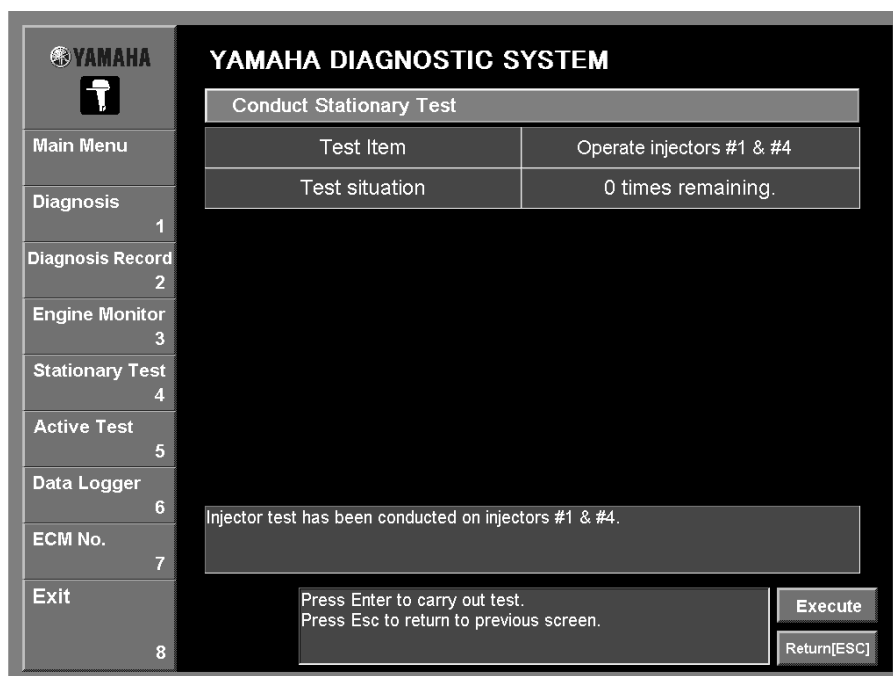

Fig. 32
5. To perform the test again on the same cylinder, click the **Execute** button or press the Enter key on your keyboard. To perform the test on a different cylinder, click the **Return [ESC]** button or press the Esc key on your keyboard to return to the window where a different test can be selected. (Fig. 32)